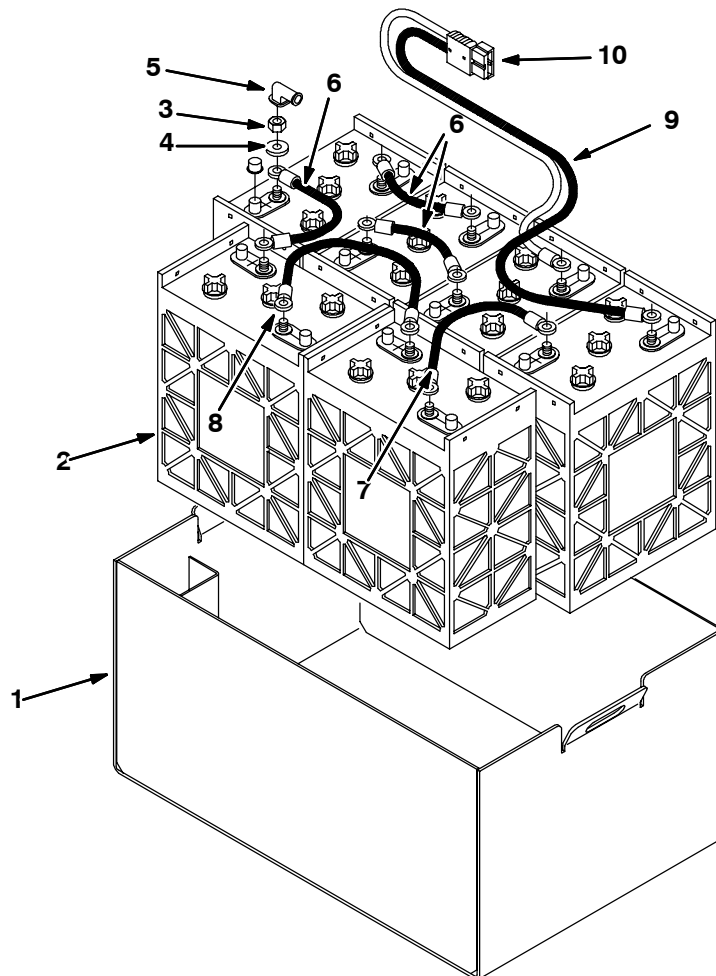

FIG. 11-Rollout Battery Pack Kit 369447
7. Assemble batteries and cables in the battery rollout housing. Connect battery cables to the batteries. Refer to Fig. 11.